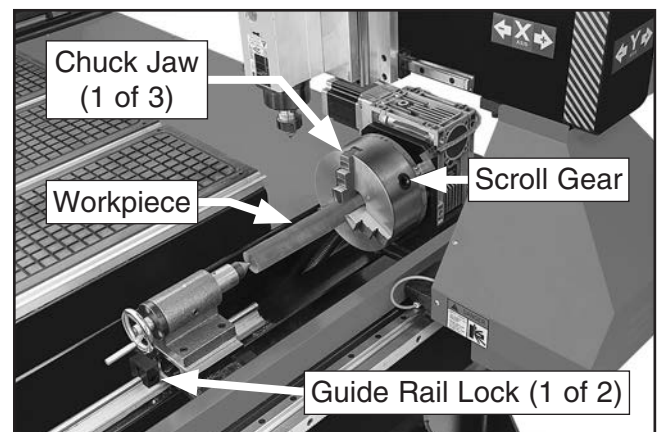

Figure 55. Securing workpiece on rotary C-axis.
3. Insert chuck key into scroll gear and turn to open/close jaws. Center workpiece in jaws and rotate chuck key until secure before removing from machine (see **Figure 55**).
4. Brace tailstock live center against center of workpiece by pushing it along guide rails (see **Figure 55**).
5. Brace both guide rail locks against tailstock and tighten (2) cap screws loosened in **Step 2** to secure tailstock (see **Figure 55**).